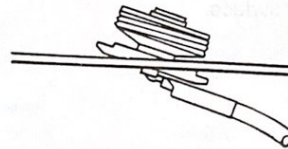

FIG. 2
2. Apply generous amounts of silicon grease to inner and outer threads of brass lock nut. Feed coax cable and mount through hole as shown in Figure 2.